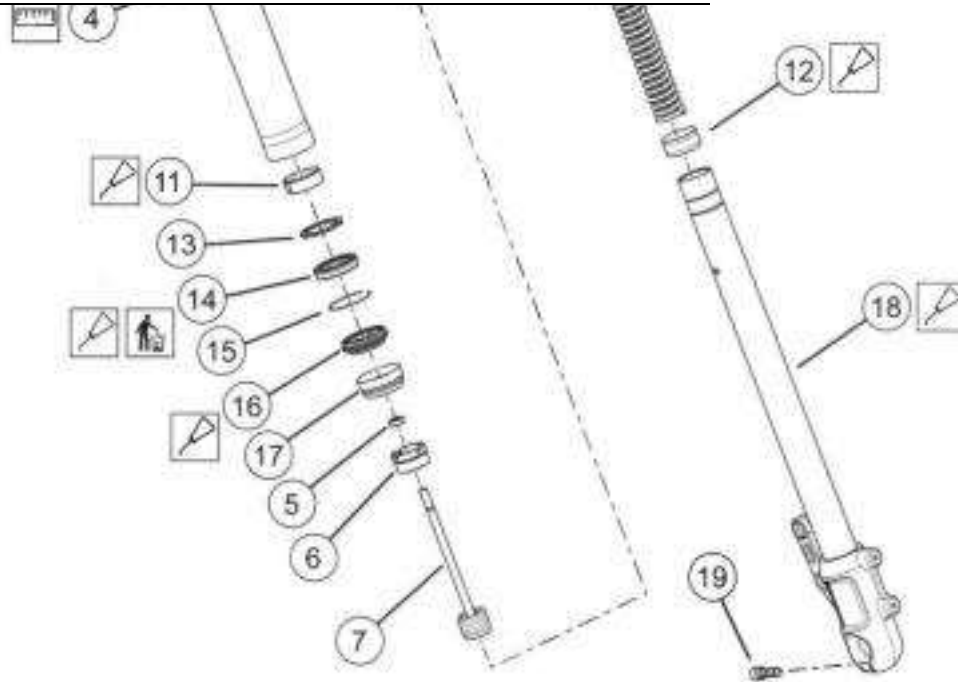

Figure 3-81. Front Fork (Right Side)
2. See Figure 3-81.
- b. Compress fork assembly to expose joint rod (7).
- c. Hold nut (5). Remove fork tube plug (1) from end of joint rod.
- d. Discard O-ring (2).
1. See Figure 3-81. Assemble fork slider.
- a. If equipped, place dust cover (17) onto fork slider (18).
- b. Place dust seal (16), retaining ring (15), oil seal (14), seal spacer (13) and slider bushing (11) onto fork slider.
- c. Install fork tube bushing (12). Expand bushing only enough to fit onto fork slider (18).
- d. Lightly coat fork slider (18) and fork tube bushing (12) with fork oil.
- e. Install fork slider (18) into fork tube (4).
1. See Figure 3-81. Install fork spring.
- a. Fully extend fork. Install spring (10) with tightly wound end at bottom.
- b. Install washer (9) and spring collar (8).
- c. Install nut (5) and joint rod (7).
- d. Using inner fork nut remover/installer install inner fork nut (6).